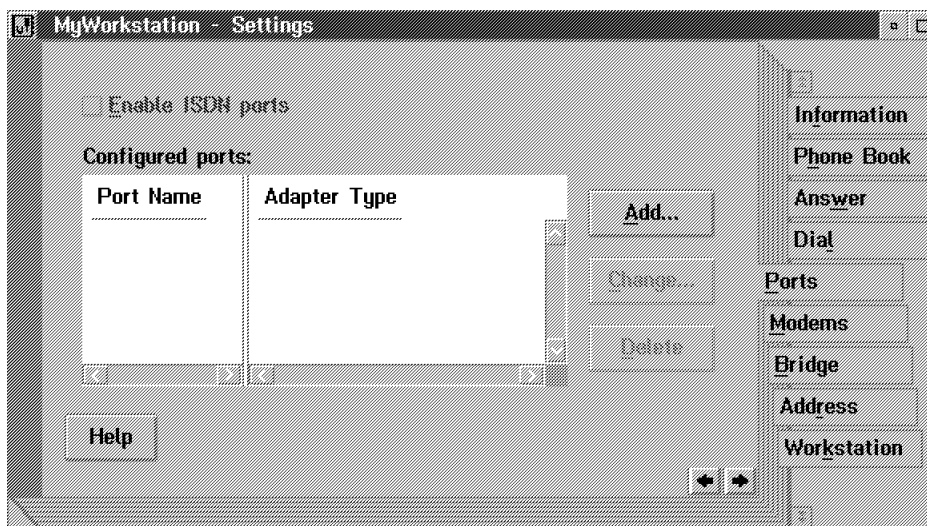

Figure 117. Settings Window - Add Port
2. From the notebook page, as shown in Figure 117, select the **Add...** button.